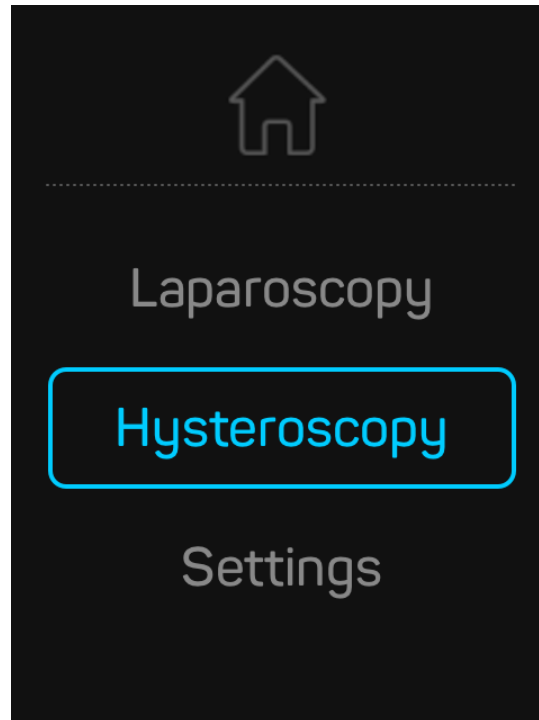

Figure 8 - Welcome menu
- Check the welcome menu appears on the monitor (see Figure 8).